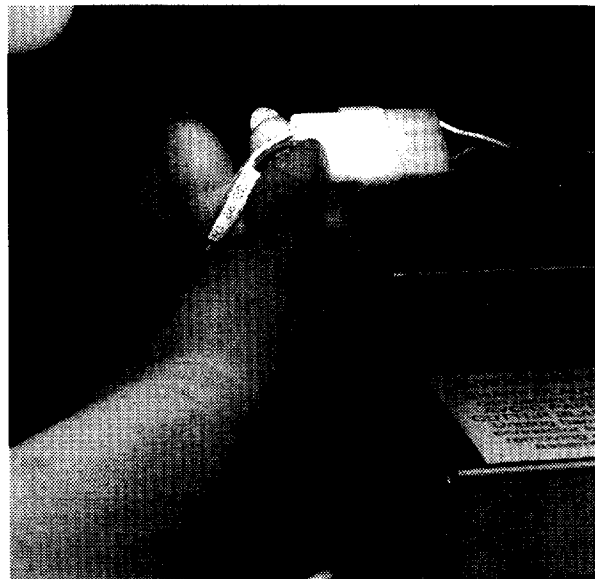

Figure 4
- a. Disconnect the wiring harness (figure 4).